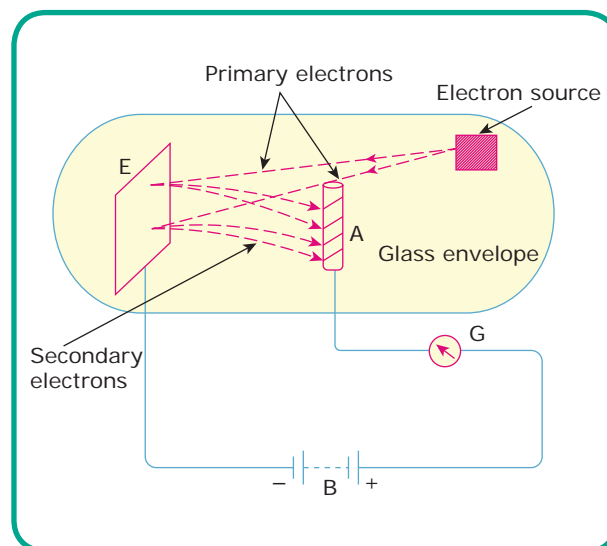

Figure 3.9 Secondary emission
3. **Secondary Emission:** In this method, a high velocity beam of electrons strike the metal surface and causes the electron emission out of the surface as shown in Figure 3.9.